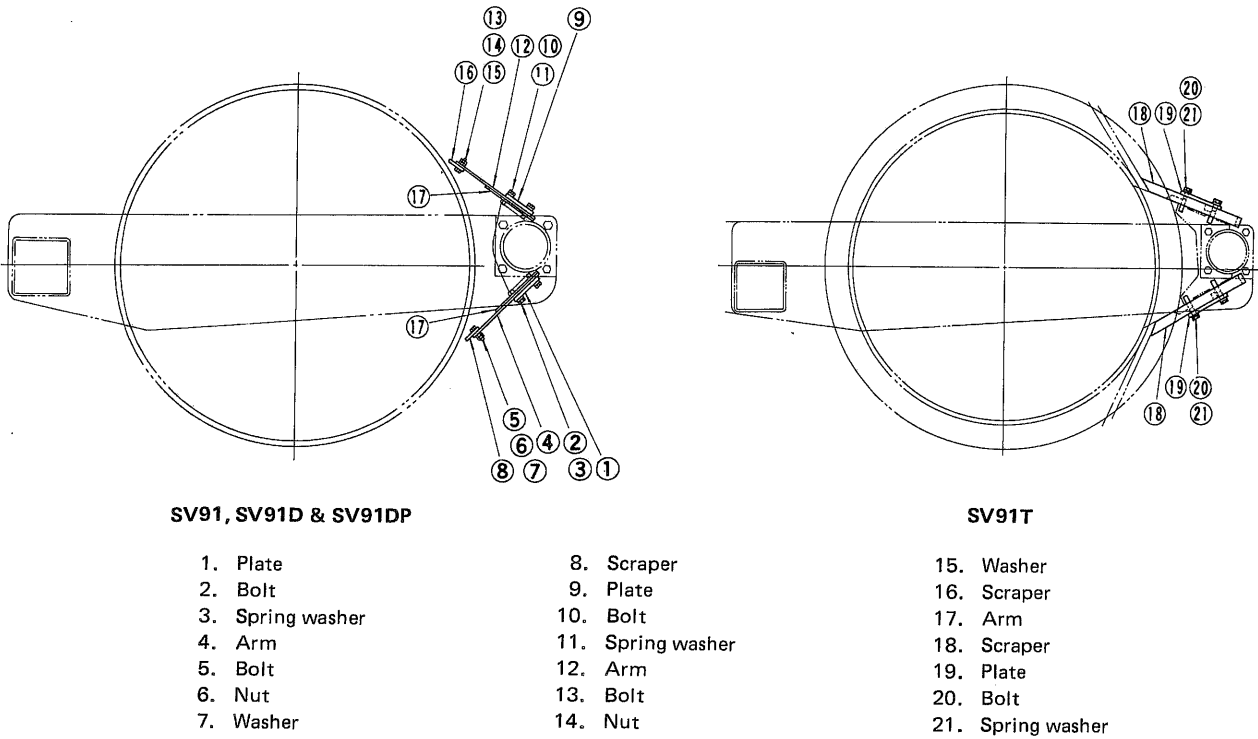

Fig. 160
Loosen bolts (20) and move scraper (18) until proper distance (L) is provided between scraper and roll. (Fig. 160)